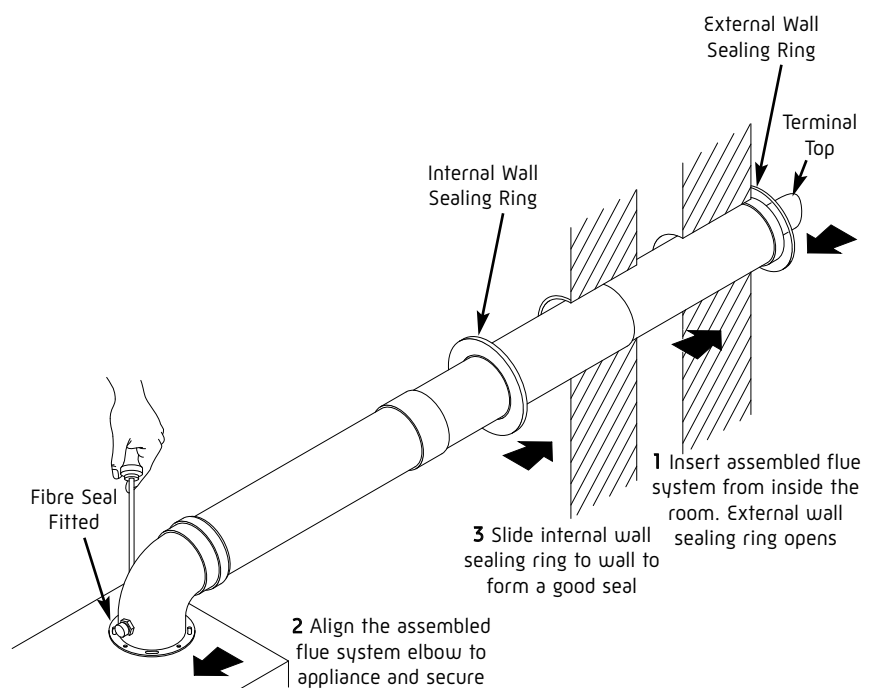

Fig. 35
2. Assemble the flue system extension ducts as necessary, referring to Fig. 35.
4. Use the internal sealing ring to make good the internal hole and check that the terminal is correctly located on the outside wall. Where possible this should be visually checked from outside the building (Fig. 35).